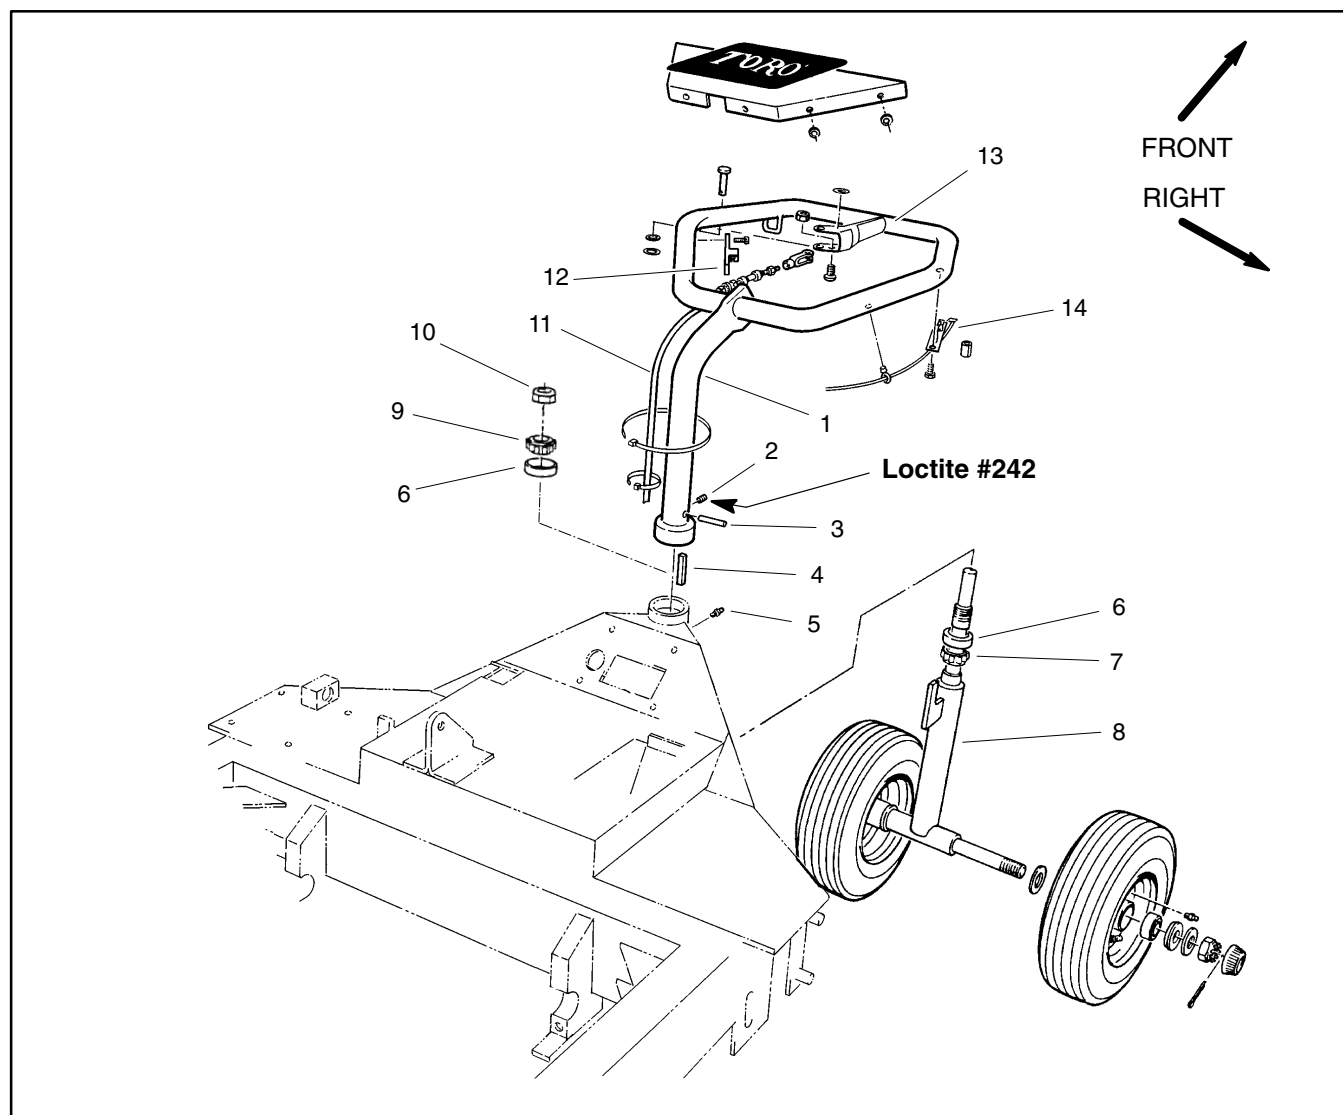

Figure 4
**Disassembly (Fig. 4)**
8. Support handle. Loosen set screw (item 2). Remove roll pin (item 3) that secures handle to front axle. Slide control handle from machine taking care to not damage brake cable or wiring harness that will stay attached to machine. Locate and retrieve key (item 4).
**Assembly (Fig. 4)**
5. Position key (item 4) in front axle. Slide handle onto front axle and align roll pin holes in handle and front axle. Install roll pin so that it is flush with handle.
6. Apply Loctite #242 (or equivalent) to threads of set screw (item 2). Install set screw into handle.